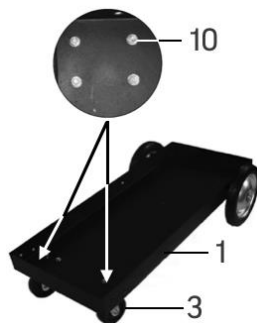

Fig. 2
5. Use the provided M6 x 12 bolt, washer and nut sets (#10) to affix the swivel casters (#3) to the underside of the bottom shelf assembly (#1) (Fig. 2).